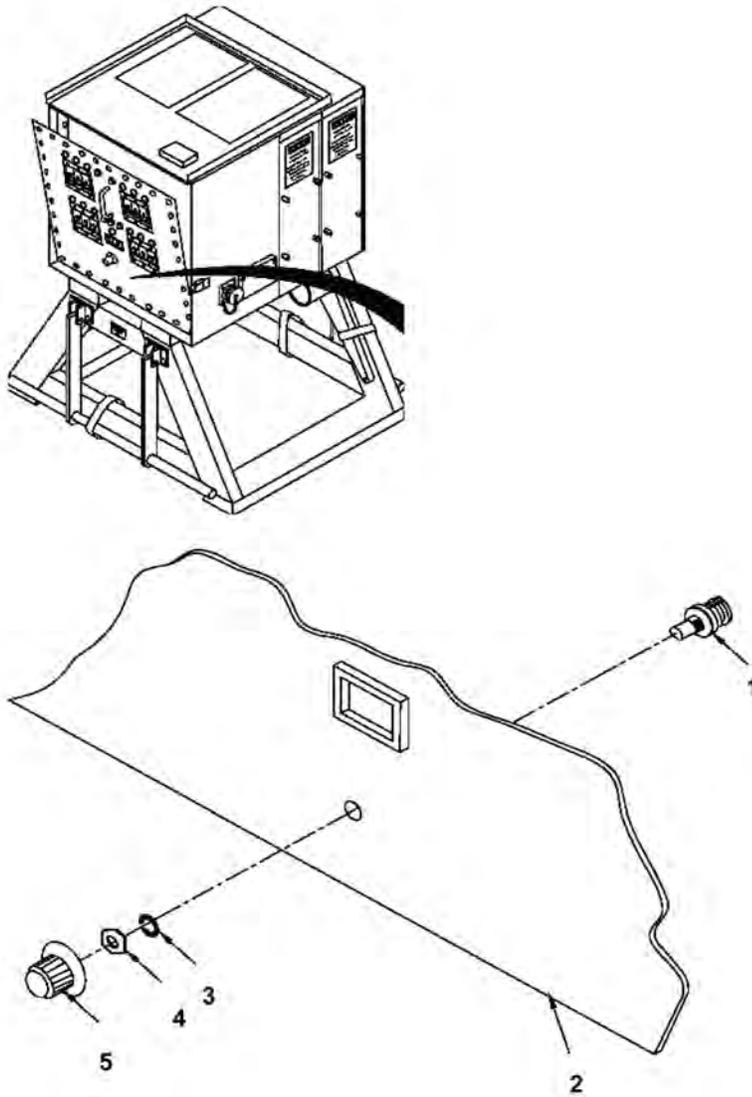

Figure 1. Phase Selector Switch S7.
7. Place switch (Figure 1, Item 1) in circuit breaker panel (Figure 1, Item 2) through rear and secure with lock washer (Figure 1, Item 3) and nut (Figure 1, Item 4).
8. Install dial (Figure 1, Item 5) on switch (Figure 1, Item 1) and tighten setscrew on dial (Figure 1, Item 5) to secure dial.
9. Solder wires to switch (Figure 1, Item 1) and remove tags.